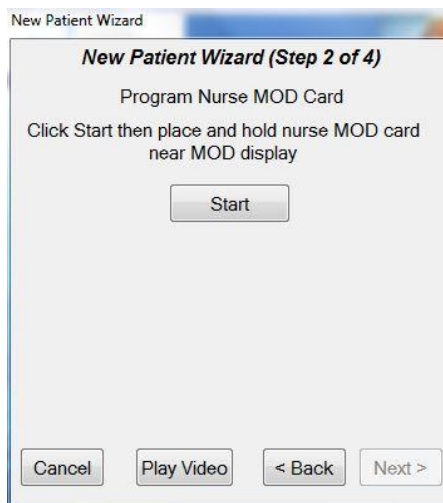

Figure 12: Program MOD[®] Nurse Card
1. Obtain a new, unused RFID wristband. Place and hold the RFID wristband within 1 inch of the MOD[®] front panel. On the **Patient Dispense Wristband** screen, select **START** to initiate programming. When you click **START**, the green dose-READY light on the MOD[®] front panel begins to blink; this indicates that the MOD[®] is programming the RFID wristband. If the wristband is successfully programmed, the next screen appears on the programmer for the MOD[®] Nurse Card (Figure 12). Go to Programming the MOD[®] Nurse Card.
Once the RFID wristband is successfully programmed and assigned, the Program MOD[®] Nurse Card screen will appear (Figure 12).
The next screen that appears is the **New Patient Wizard Step 2 - Program Nurse MOD[®] Card** (Figure 12).
2. Place and hold the MOD[®] Nurse Card within 1 inch of the MOD[®] front panel and click **Start** on the screen to initiate programming (Figure 12).